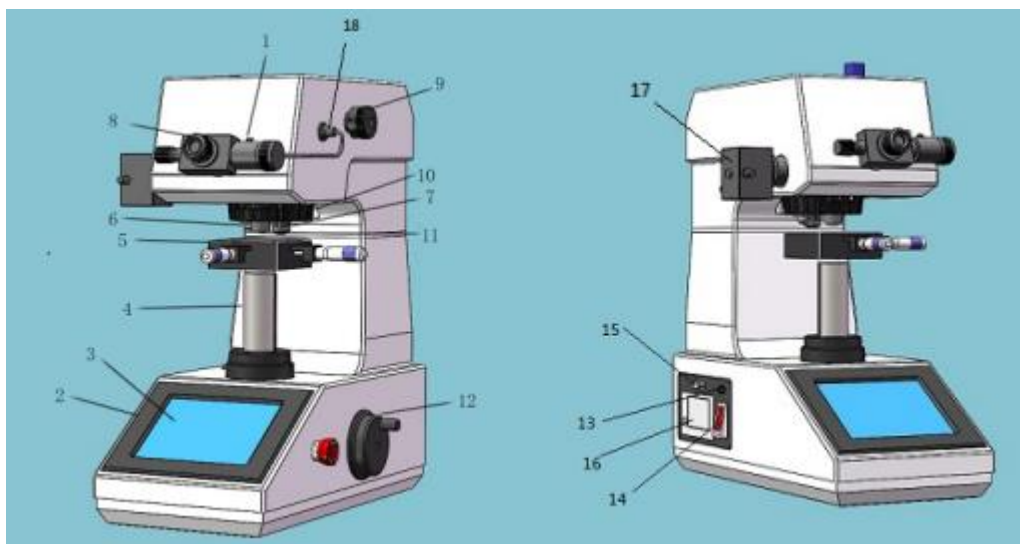

Figure 3.1 The appearance of the hardness tester host
- a. Remove the outer packing box, take out the hardness tester host and accessory box (see Figure 3.1).
- c. Remove the upper cover (12), unscrew the four screws and anti-vibration screws on the top of the machine